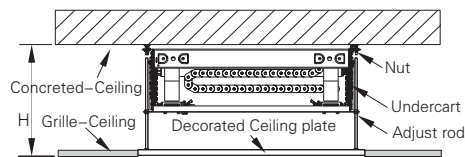

Figure3 Standard ceiling installation
A. If $H < H1$ (Supposed it's Maximum H2), can install project lift on the Concreted–Ceiling directly. Check Figure 3.